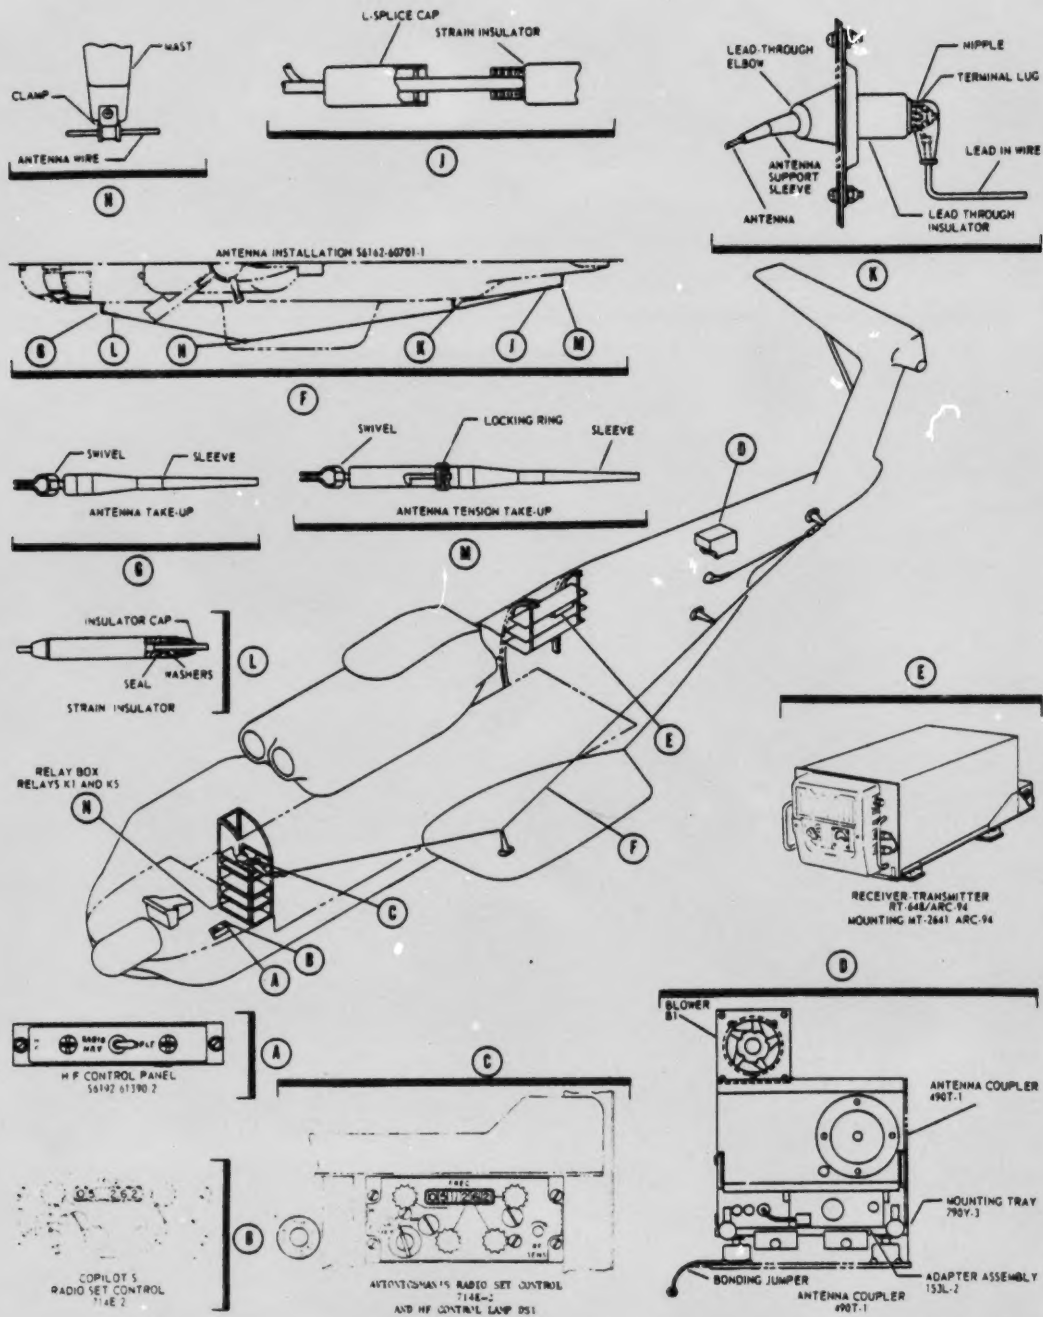

Figure 7-4. - HF/COMM system components - location diagram.
antenna, a coupler and a coupler blower. The system provides two-way voice communication between land-based, seaborne and airborne stations. The operating frequency range is from 2.0 to 29.999 MHz, divided into 28,000 discrete channels in one KHz increments. The HF/COMM system receives and transmits on either single sideband (USB or LSB) or amplitude modulated equivalent (AM). The receiver transmitter and the coupler blower are both powered by the No. 2 AC primary bus. The radio set uses 400-Hz three-phase 115-volt AC, and the coupler blower uses 400-Hz single-phase 115-volt AC power. Each unit is protected by a circuit breaker on the pilot's circuit breaker panel. The circuit breaker is under the general heading NO. 2 AC PRI. The receiver and transmitter circuit breaker is marked HF, and the coupler blower circuit breaker is marked HF COUPLER BLOW OB. The control circuit illuminates the avionicsman's HF (figure 7-7) control light and is powered by the DC primary bus. This circuit is protected by a circuit breaker on the pilot's circuit breaker panel. The circuit breaker is under the general headings DC PRI and is marked HF. (See figure 7-4.)